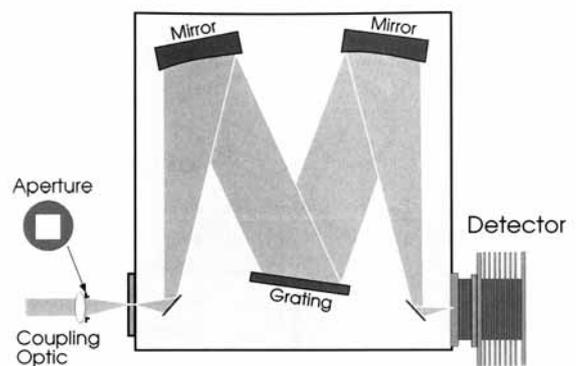

Figure 8. Diagram illustrating the use of f# matching optics and mask for coupling light into spectrometers
1. When coupling light into and out of a spectrometer, f# matching is helpful for efficient coupling. f# matching helps to minimize stray light introduced by overfilling the spectrometer optics. In many instances, a simple aperture behind the coupling optics works efficiently for this purpose. Figure 8 depicts a spectrometer light coupling system which uses f# matching optics together with a mechanical aperture.